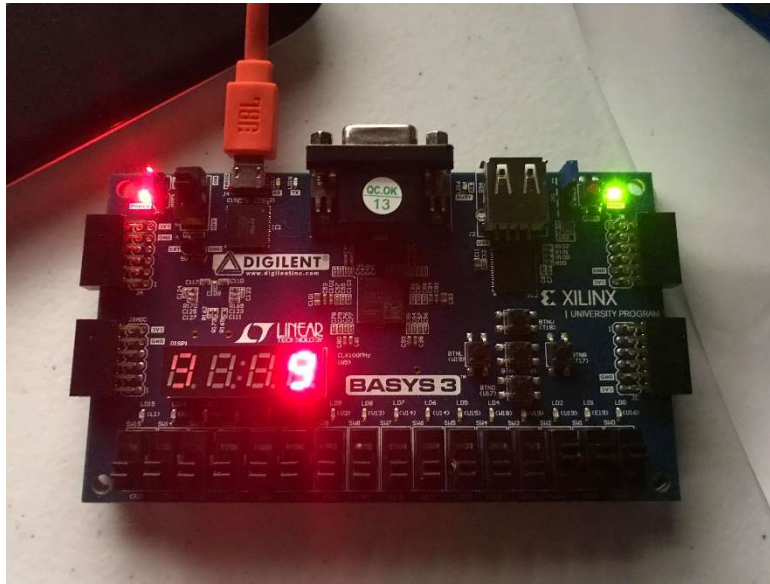

Figure 4: Photo of operation being (insert operation here is 111) tested on FPGA board.
According to figure 4, when we turn on all switches (111), the LED 7 segments output 9. When it is 001, the output is 4. Thus, the FPGA validation has been succeeded as the output matches Table 2.